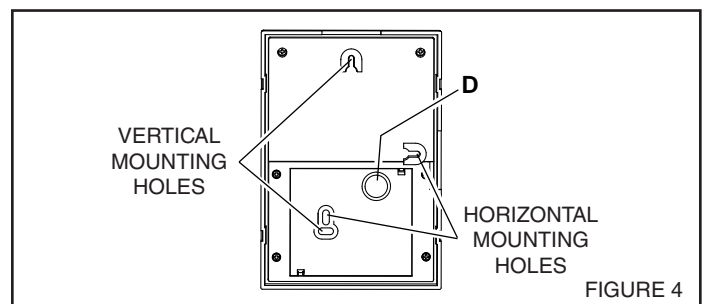

FIGURE 4
- Bring wires through the circular wire hole (D) in chime base. (Figure 4)
- Mount chime base to wall using screws provided. Always use 2 screws for wall mounting. (Figure 4)